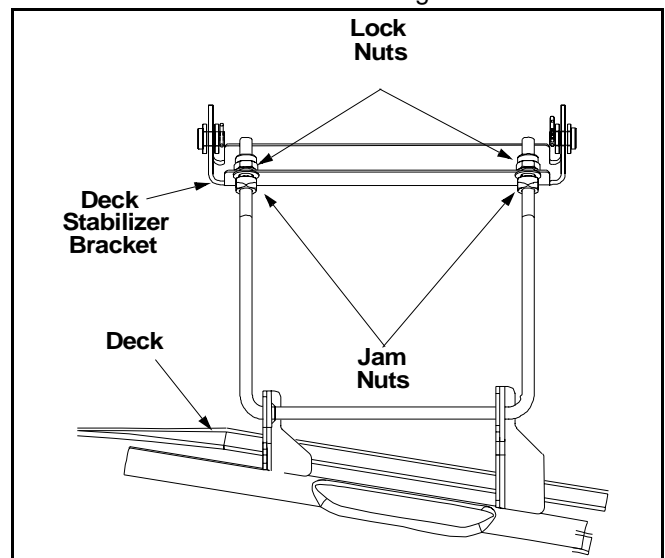

Figure 14
- Loosen the two jam nuts on the rear side of the deck stabilizer bracket. See Figure 14.
- Locate the two lock nuts on the opposite side of the stabilizer bracket. See Figure 14. Tighten the lock nuts to raise the front of the deck; loosen the lock nuts to lower the front of the deck.